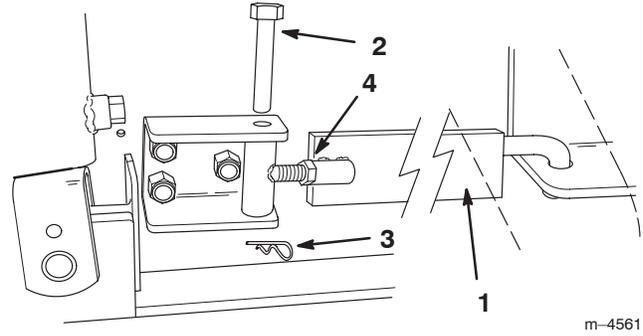

Figure 12
- If you are installing the backhoe on a 200/300 series traction unit, install the side bars on each side as illustrated in Figure 12. The decal on each side bar must be visible when installed.
Important If the bars do not fit snugly, remove them, loosen the jam nut, and thread the compound side bar together or apart as needed to ensure that they fit as tight as possible (Fig. 12). Tighten the jam nut when finished.
- A. Remove the hairpin cotters and pins securing the side bars and remove the side bars (Fig. 12).